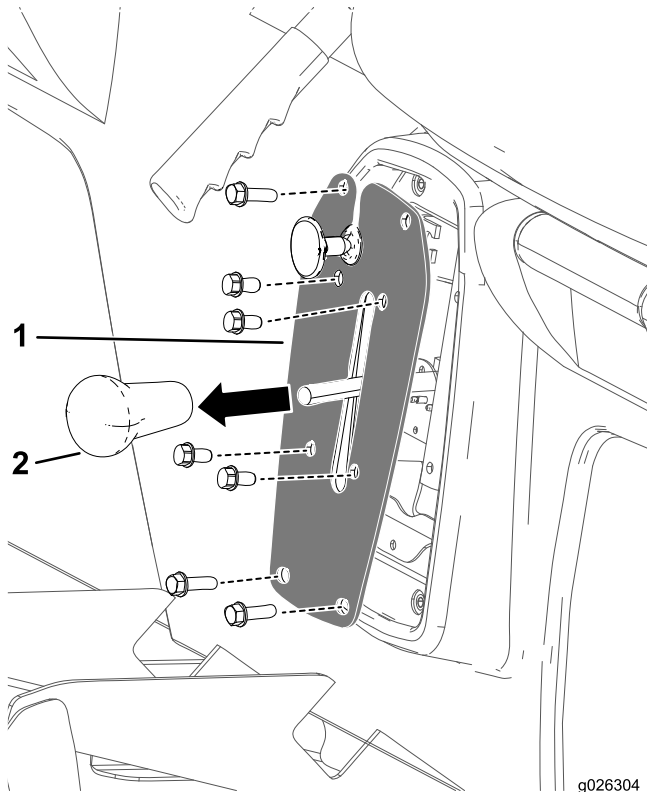

Figure 1
1. Remove the knob from the gear shift lever (Figure 1).
2. Remove the 4 bolts securing the shifter plate to the shifter bracket (Figure 1).
3. Remove the 4 bolts securing the shifter plate to the seat base and remove the shifter plate (Figure 1).